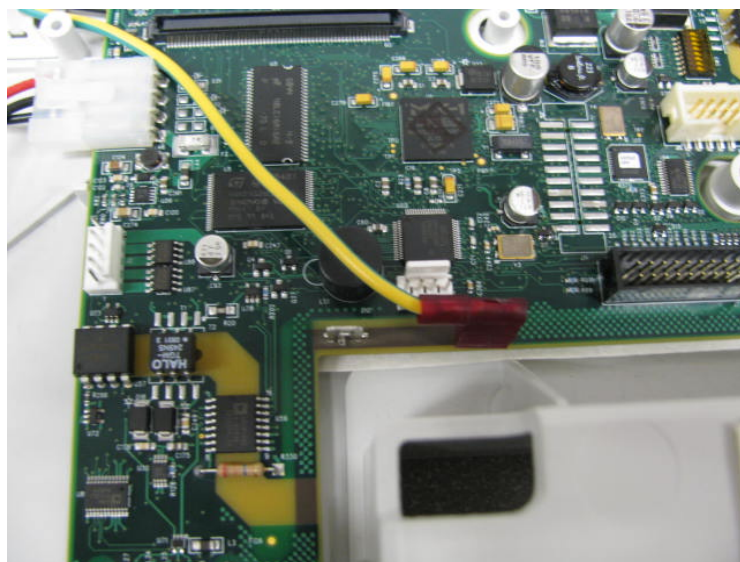

Figure 5
5. Install main board (405472) into housing using 5 Screws (106124-4). Connect (740068 long green/yellow wire) to the main board terminal J5 as shown (Figure 5).